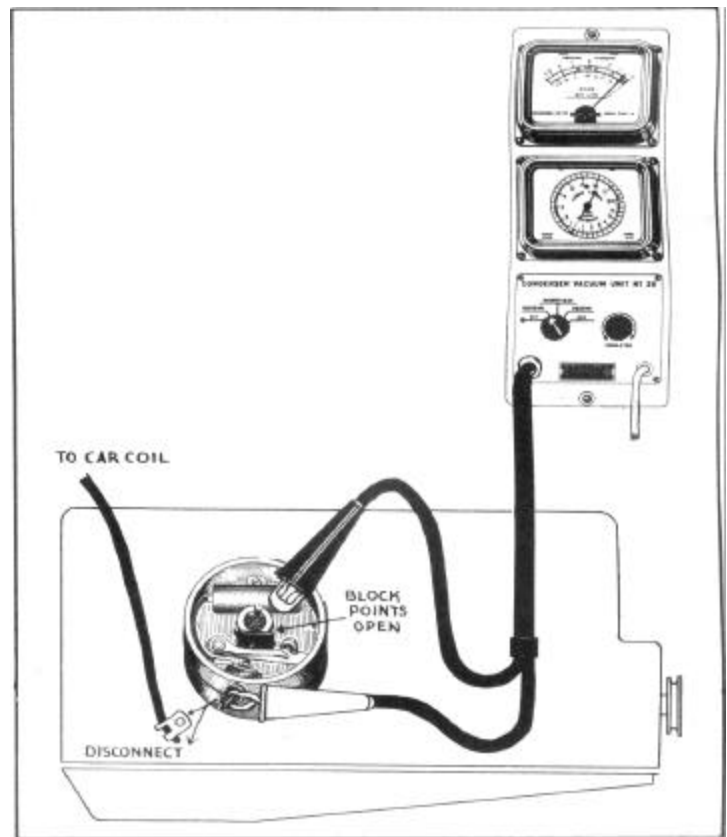

FIGURE 24
5. Connect the red lead to the distributor primary terminal and connect the black lead to the condenser shell, Figure 24,